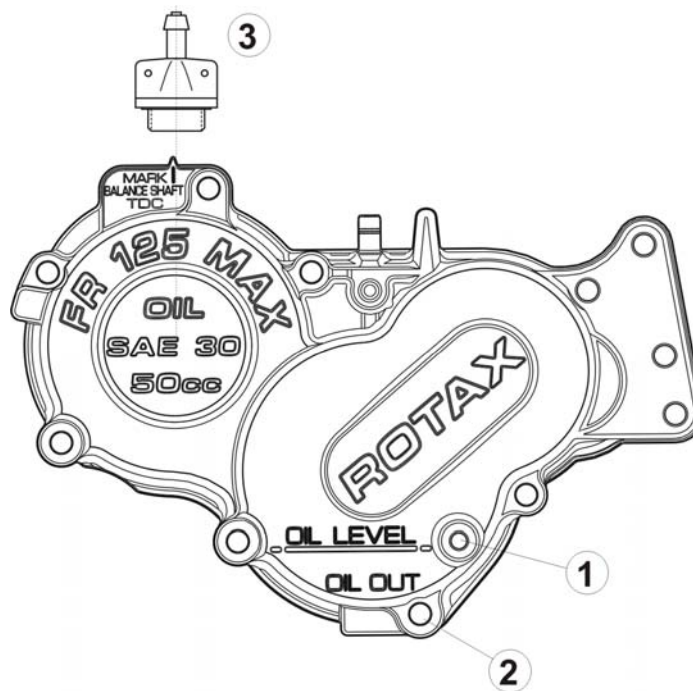

Fig. 3
- ➔ Remove the Allen screw (1) and sealing ring (fig. 3). If no oil emerges through the tapped hole, remove the venting screw (3) and slowly fill in oil of specification SAE 15W40 until oil emerges at oil level checking screw (1). (Filling capacity on new engine is 0,05 l / 1,7 fl OZ (US).